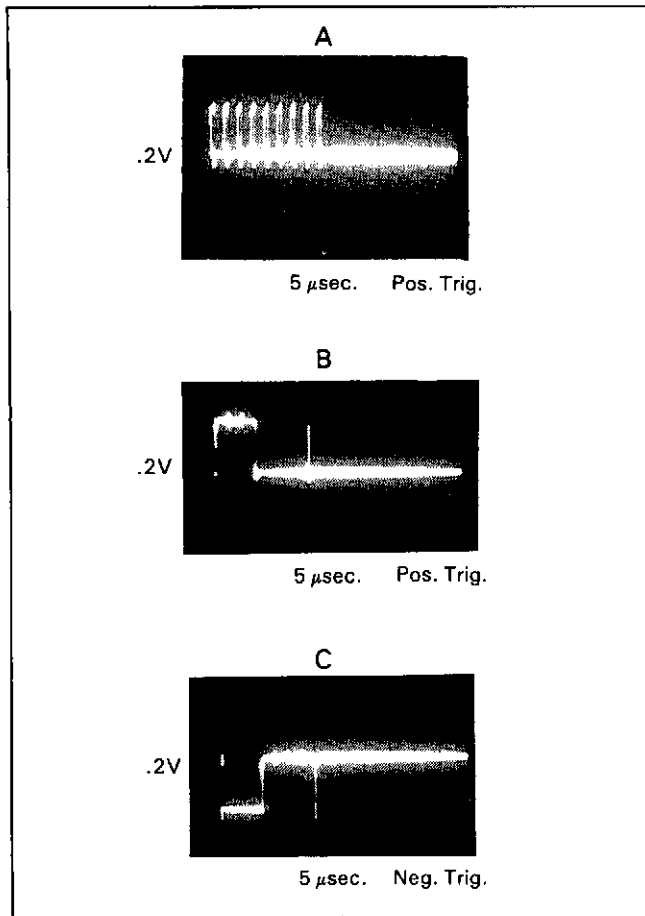

Figure 8-A-9. Input to U19.
5. Next turn the 3456A On and check for signature "1025" (high) at pin 14 of A4U19 and signature "CU45" at pin 5 of U18. If the signatures are good, continue troubleshooting the Isolation Logic. If the signatures are bad, try U19 and U18, respectively. If the signatures are still bad, go to Flowchart B, Figure 8-A-2, for further troubleshooting.
a. If all the Low Pulses are missing, check the waveform shown in Figure 8-A-9B at pin 2 of U19. If the waveform is good, replace U19. If not, replace U15 or U19.
b. If all the High Pulses are missing, check the waveform shown in Figure 8-A-9C at pin 10 of U19. If the waveform is good, replace U19. If bad, replace U15 or U19.